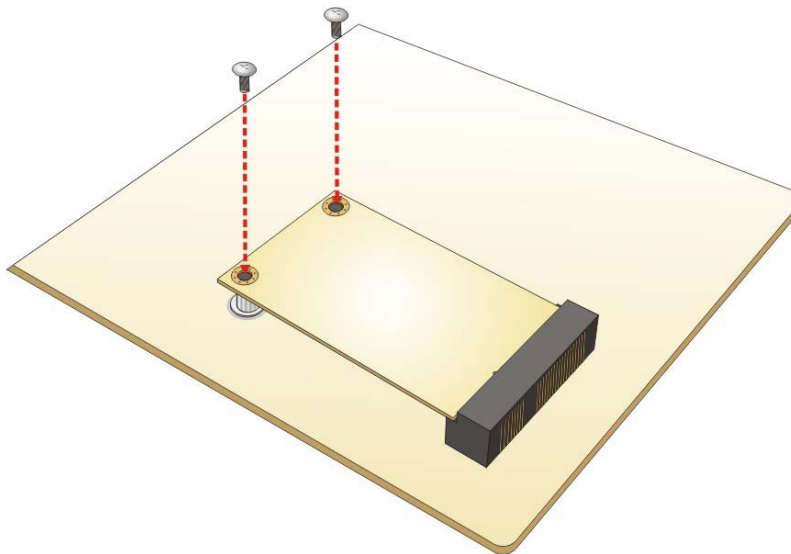

Figure 4-13: Securing the Full-size PCIe Mini Card
Step 4: Secure the full-size PCIe Mini card. Secure the full-size PCIe Mini card with the retention screws previously removed (Figure 4-13).